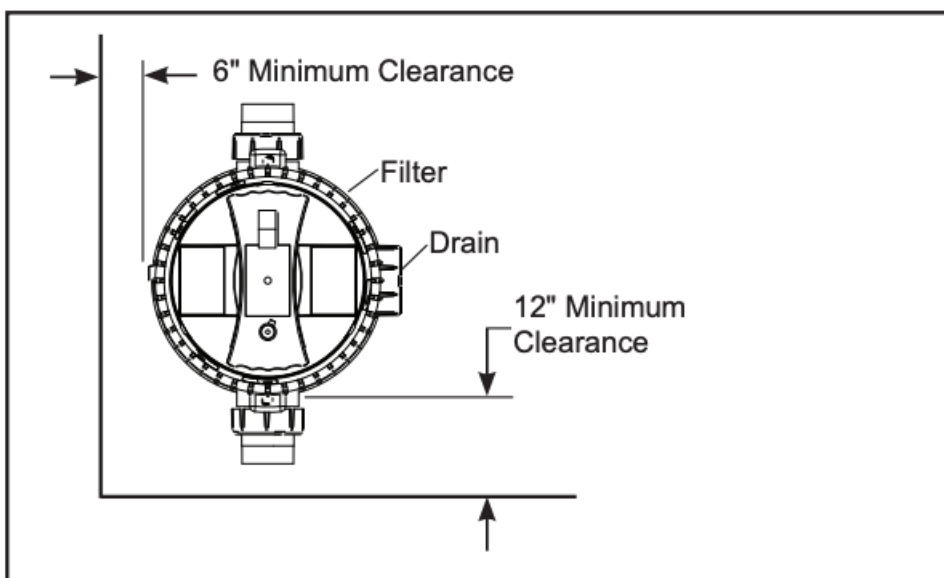

Figure 1. Filter Location – Top View
- Install electrical controls at least five (5) feet from the filter. This will allow enough room to stand away from the filter during start-up.
- Allow sufficient clearance around the filter to permit a visual inspection of the clamp ring. See Fig. 1.